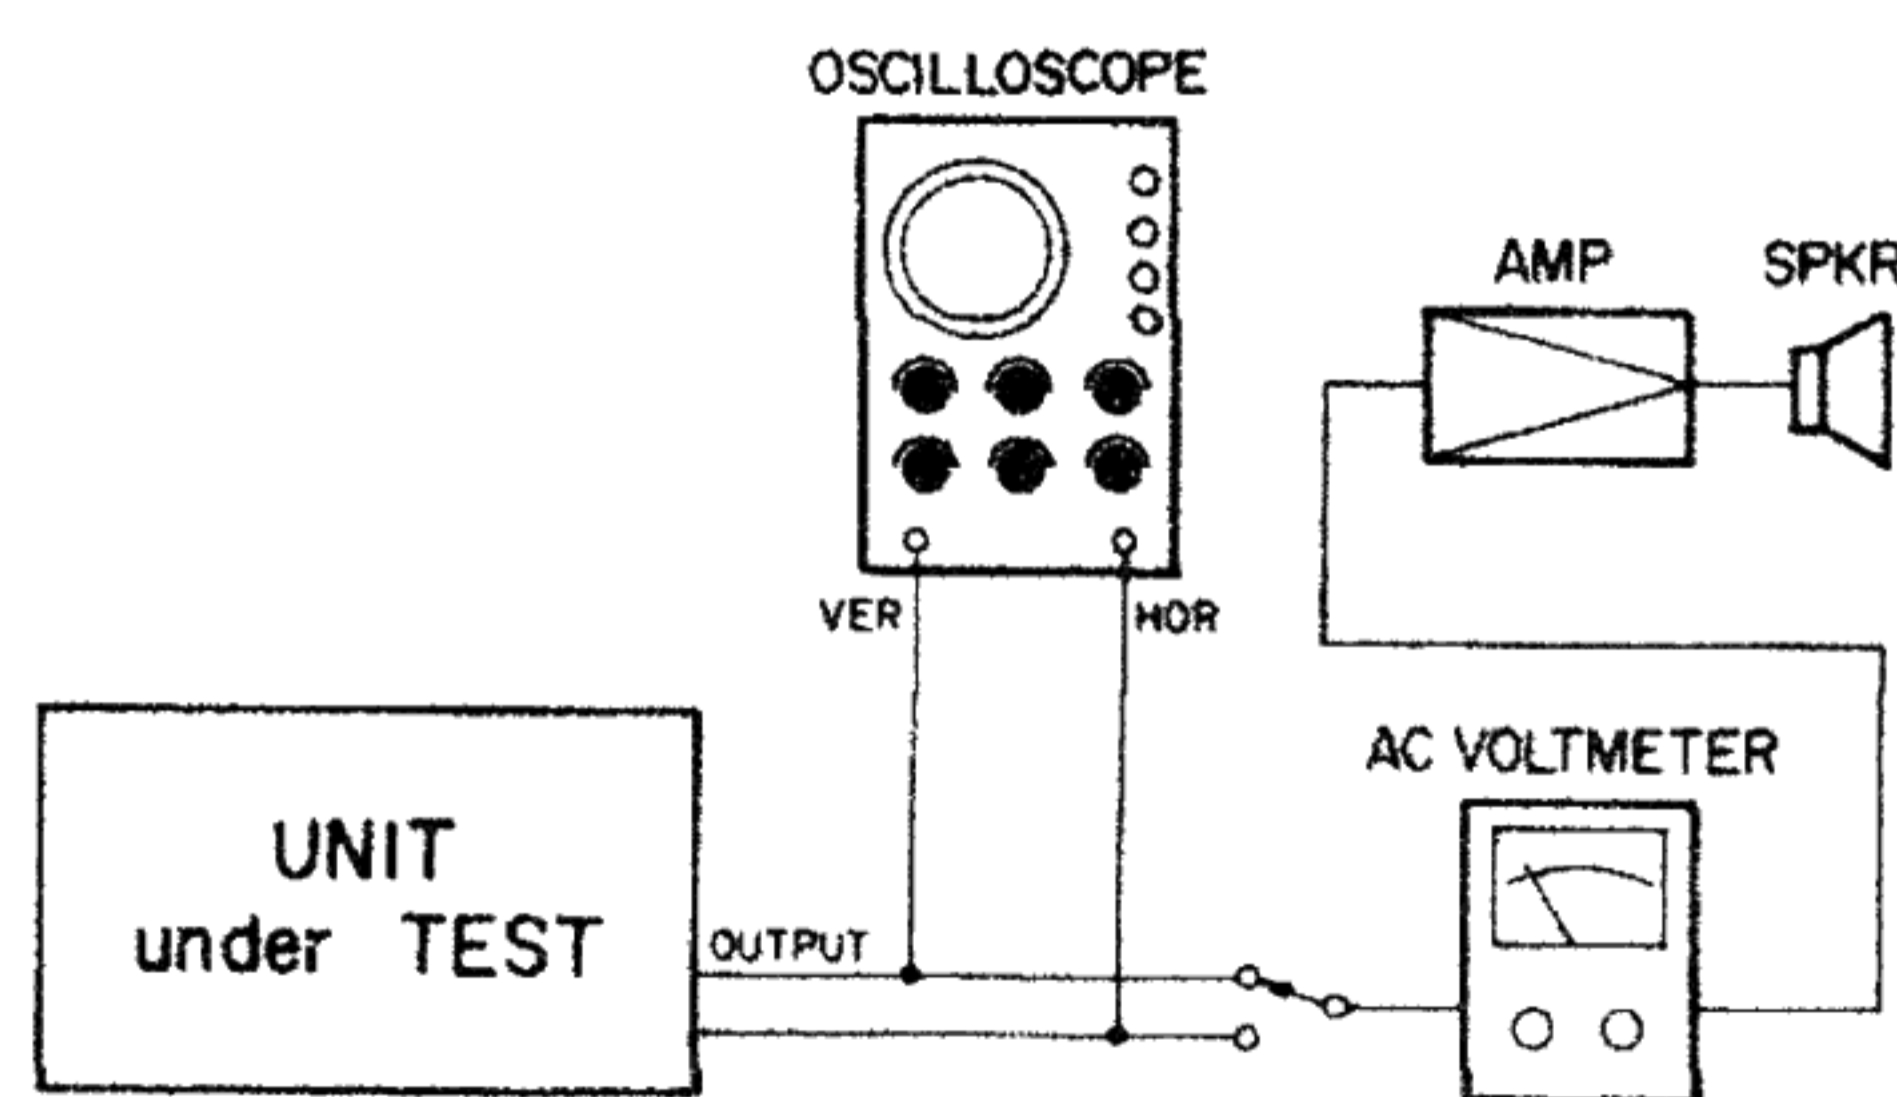

Fig. 5-1
- c. Set the MONITOR switches to TAPE. Run the test tape and check phase and azimuth while noting both the output level and the waveforms. If the phase and/or azimuth are out of position, adjust the heads. See Fig. 5-1 showing connections.